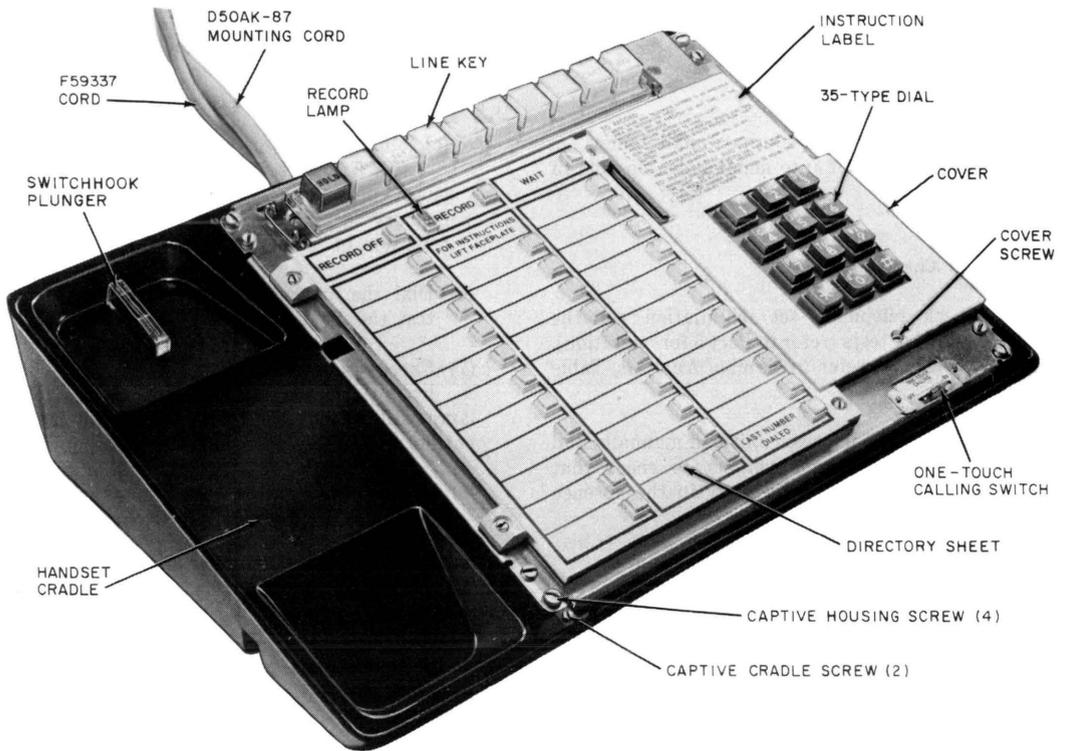

Fig. 2—Telephone Set With Handset and Faceplate Removed
2.06 Operating Features (Fig. 2):
- 3.05** The directory sheets (Fig. 2) fit over the buttons of the memory field and are held in place by the faceplate. Additional sheets are available in the directory sheet set, 840393672.
- (1) Remove the faceplate (3.18).
- (2) Loosen the captive cover screw at the bottom of the white cover around the dial (Fig. 2).
- (3) Remove the cover.
- (4) Remove the key (3.17).
- (5) To replace the cover, the two tabs of the cover (one at each side just above the opening for the dial) must be aligned with holes in the chassis before the screw is refastened. Failure to do this will result in improper seating of the faceplate.
- (4) Remove the two screws that hold the dial in place.
- (5) Gently raise the dial and disconnect 12 position plug from terminal board.
- (6) Rotate dial over onto the Memory.
- (7) To reassemble; reverse procedure.
- (1) Remove the faceplate (3.18), and place the handset aside.
- (2) Disengage the captive cradle screws located in the two tabs on the cradle (Fig. 2).
- (3) Lift the cradle by pulling up on the plunger and remove.
- (4) Replace the handset cradle by sliding it sideways to engage the clips with the mating tabs in the side of the housing.